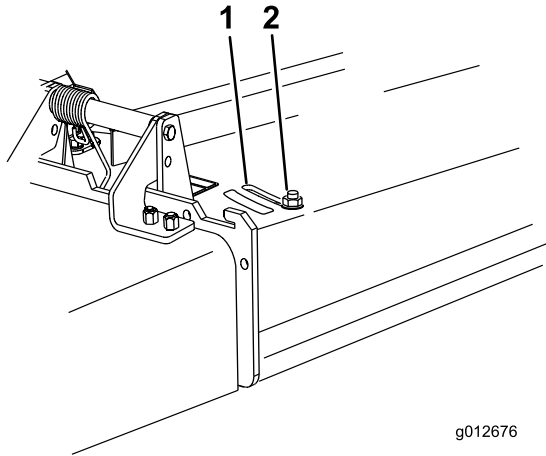

Figure 13
3. Loosen the nut (Figure 13).